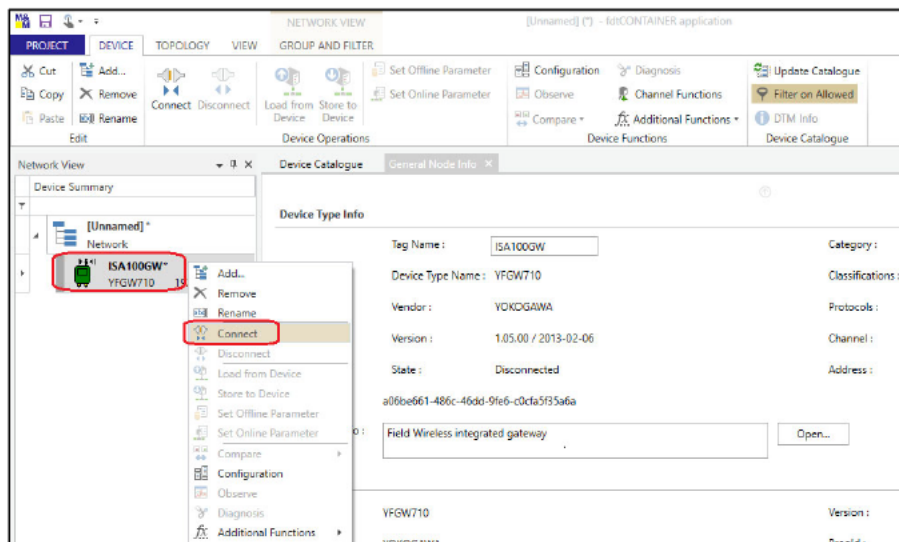

Figure 5-41 Connecting to ISA100.11a wireless upstream system
- ③ “ISA100GW YFGW710” is added to “[Unnamed] Network” in the tree menu on the left side of the main window. Right-click, then select “Connect” to connect to the ISA100.11a wireless upstream system. (Figure 5-41)